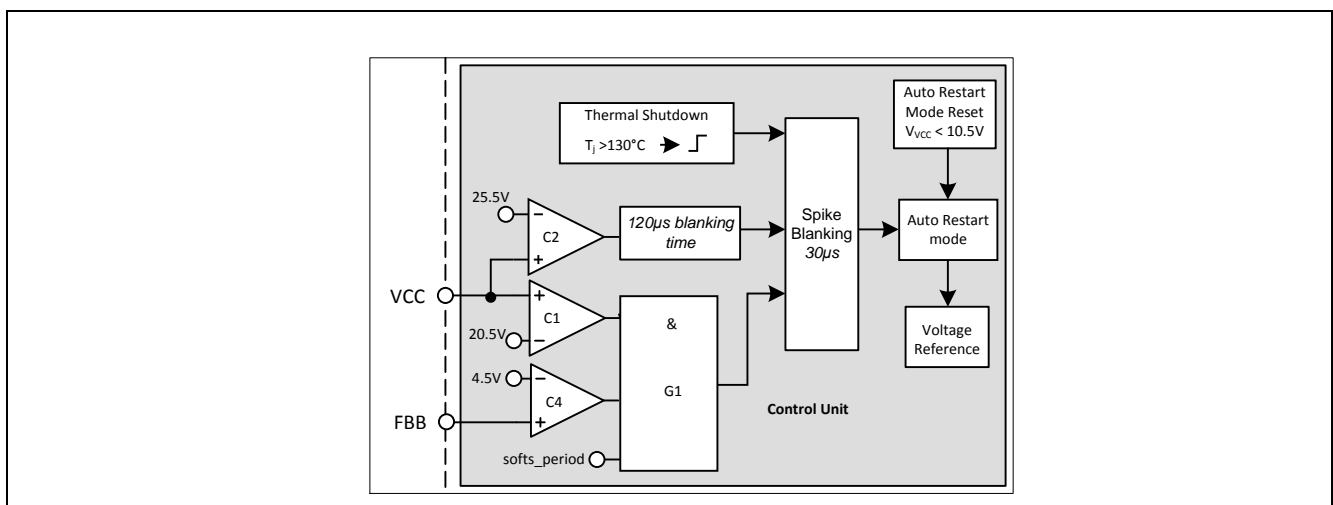

Figure 30: V_{cc} OVP and OTP
V_{cc} OVP (1) condition is when V_{VCC} voltage is > 20.5V, V_{FBB} voltage is > 4.5V and during soft start period, the IC enters into odd skip Auto Restart Mode. This condition likely happens during start up at open loop fault (Figure 30).
V_{CC} OVP (2) condition is when V_{CC} voltage is > 25.5V, the IC enters into odd skip Auto Restart Mode (Figure 30).
The over temperature protection OTP is sensed inside the controller IC. The Thermal Shutdown block keeps on monitoring the junction temperature of the controller. After detecting a junction temperature higher than 130°C, the IC will enter into the non switch Auto Restart mode. The ICE3AR1080VJZ has also implemented with a 50°C hysteresis. That means the IC can only be recovered when the controller junction temperature is dropped 50°C lower than the over temperature trigger point (Figure 30).